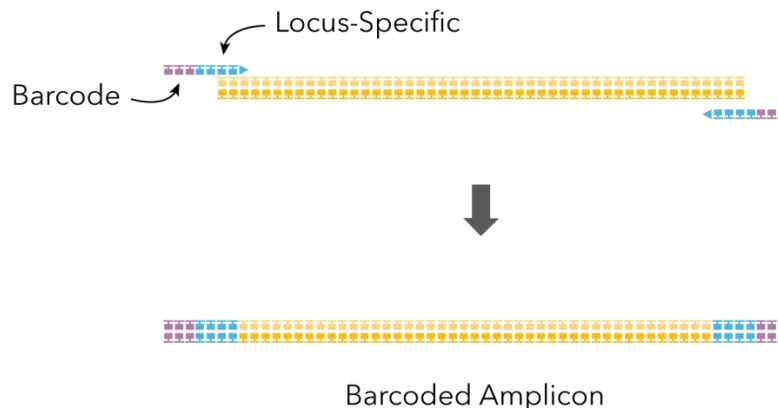

Figure 5 Locus-specific primers may be barcoded using published PacBio 16-bp barcodes.
1. Barcoded Locus-Specific Primers (Figure 5)